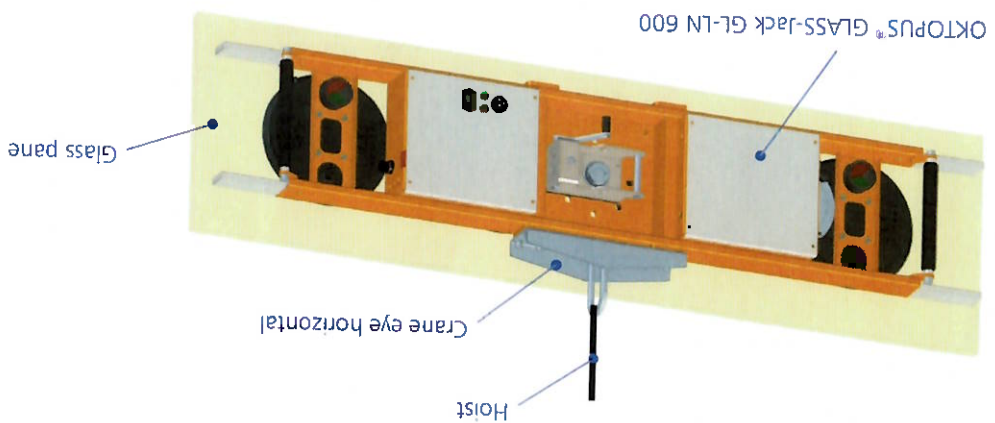

Fig. 1: Crane eye horizontal
The "crane eye horizontal" was designed as equipment for the OKTOPUS® GLASS-Jack GL-LN 600 and is used as shown in figure 1.
2. Disassemble the crane arm (s. operating instructions fig. 1, pos. 2) of the OKTOPUS®, if it does or could bother during operation. To this end remove the locking bolt Ø20 with lynch pin. We recommend leaving the rotating/tilting joint on the device.